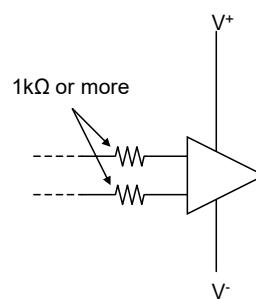

Fig.5
- / limiting a parasitic circuit operation by inserting a resistance (1kΩ or more) (Fig.5).